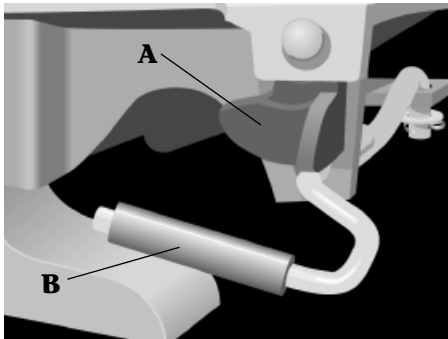

Figure 17
LOCKED POSITION (Figure 17) - Pivoting jaw and spring actuated lock encircle the kingpin (not shown).
In the locked position, the safety indicator (A) is parallel with the top of the fifth wheel and the operating rod handle (B) is angled down, with cam in contact with the indicator (Figure 17).